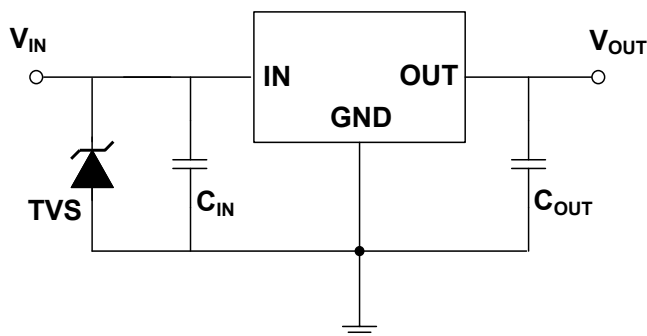

Figure 9-1. TVS is used at IN
1. Place a TVS between the IN and GND of the voltage regulator to absorb the peak voltage that may be generated due to ESD or other reasons. As shown in Figure 9-1;